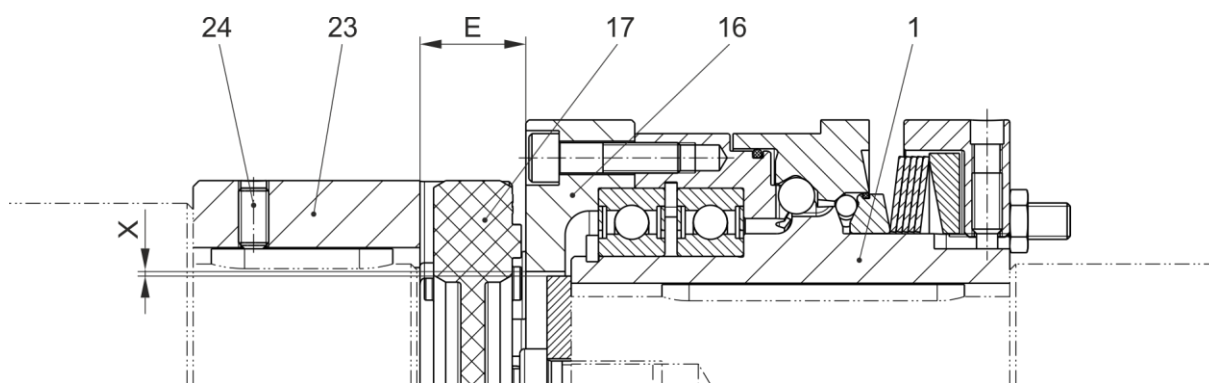

Fig. 9
- ➔ locking set screw (24) for hub (23), see Fig. 9 and Table 7 on page 8,
There must be sufficient radial air between the press cover and the inner diameter of the output element (see Fig. 9).
Keep to distance dimension "E" acc. Fig. 9 and Table 7!